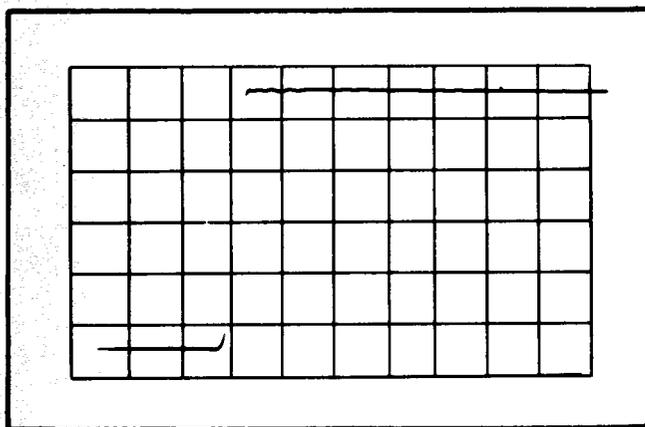

Fig. 5-6. Typical CRT display showing correct high-frequency compensation.
- d. CHECK-CRT display for optimum square-wave response (see Fig. 5-6).
- g. CHECK-CRT display for optimum square-wave response (see Fig. 5-6).
- j. CHECK-CRT display for optimum square-wave response (see Fig. 5-6).
- n. CHECK-CRT display for optimum square-wave response (see Fig. 5-6).
- q. CHECK-CRT display for optimum square-wave response (see Fig. 5-6).
- t. CHECK-CRT display for optimum square-wave response (see Fig. 5-6).